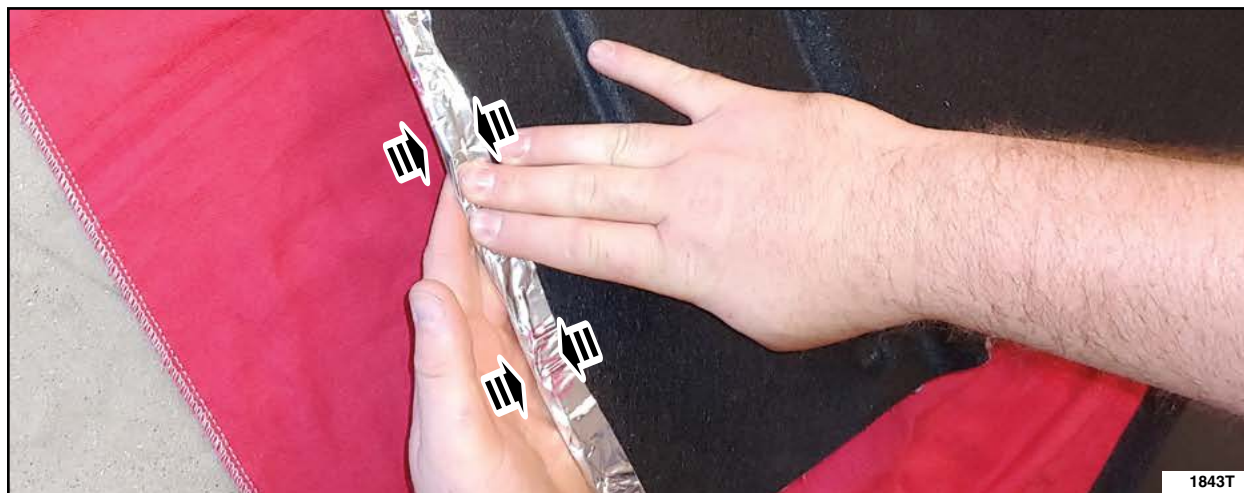

FIGURE 18
6. Using hand pressure, pinch / crimp both sides of the applied foil tape to ensure positive adhesion with no exposed insulation. See Figure 18.